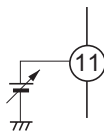

Figure 3
- Power save mode is provided for saving  $I_{CC}$  less than about 10 mA as figure 3.